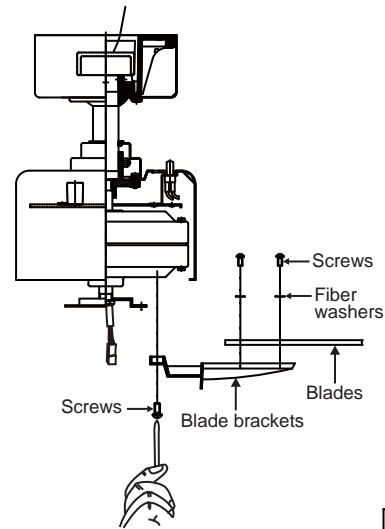

Fig. 16
**Step 1.** Attach a blade to a blade bracket using the screws and fiber washers provided. (Fig. 16)
**Step 2.** Attach each blade assembly to the motor using the "Pre-Installed" mounting screws in the blade bracket. (Fig. 16)